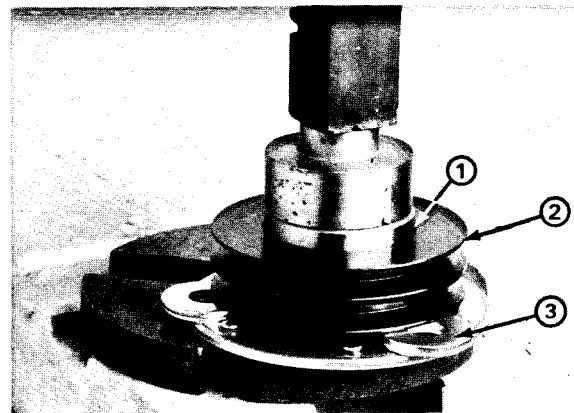

Figure 31
E. Put the armature & pulley assembly in the arbor press, pulley side up. Put spacers in three (3) locations between the pulley and armature plate to prevent damage to the springs (Fig. 31). Three (3) stacks of flat washers can be used for spacers. Make sure the extended part of the collar is facing down and press on the outer bearing race to install the bearing and collar.